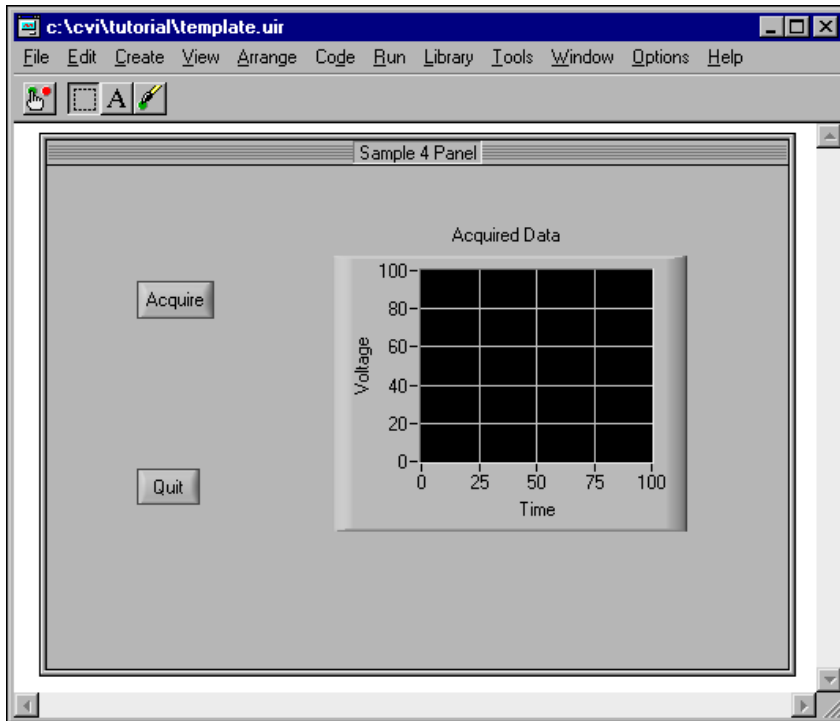

Figure 5-1. User Interface Editor with Completed GUI Panel
1. Select **File»Open»User Interface (*.uir)**. Load `template.uir`. Notice that the user interface is already partially completed. You must add a button to trigger an acquisition and a graph control to display the acquired waveform so that it looks like the `.uir` in Figure 5-1. You add the button and graph control in the steps that follow.
Your completed user interface looks like the one shown in Figure 5-1.